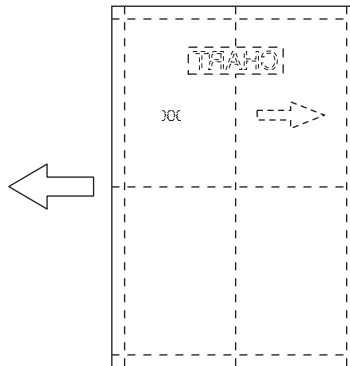

Fig.6-34
- (1) Place the chart on the RADF original tray with the image face down (Fig.6-34).
- (2) Select [2 → 2 DUPLEX] and press the [START] button.